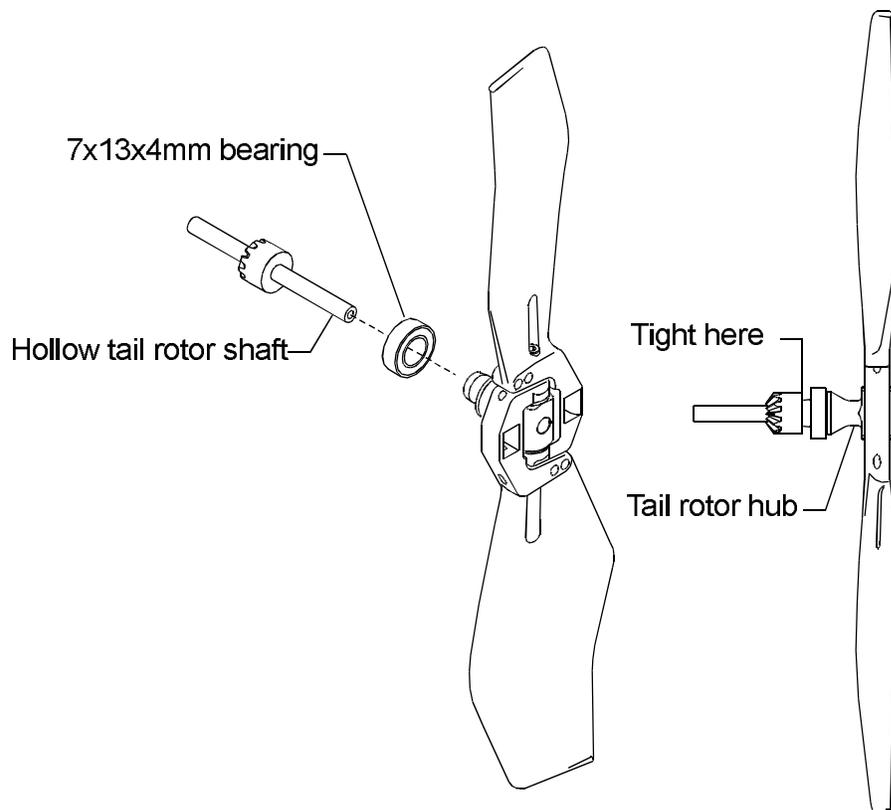

Figure 9-3.
- ❑ 10. Referring to Fig. 9-3, assemble the tail rotor hub, 7x13x4mm bearing and tail rotor shaft so the end of the hub presses tightly against the back of the plastic bevel gear. Tighten the tail rotor blade setscrews to hold the hub to the shaft (they will be very tight).